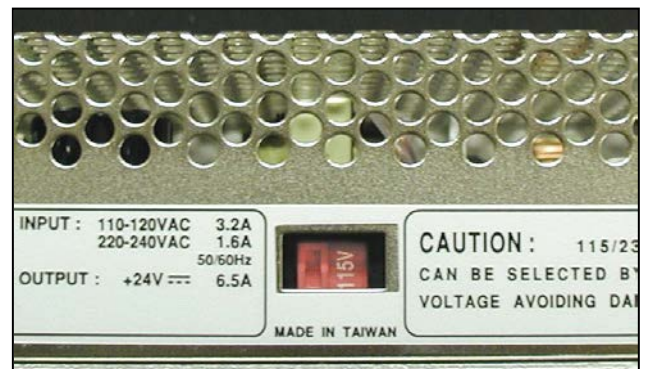

Figure 3-29. Voltage Selector Switch
3. Locate the red Switch on the side of the Power Supply. (Figure 3-29).